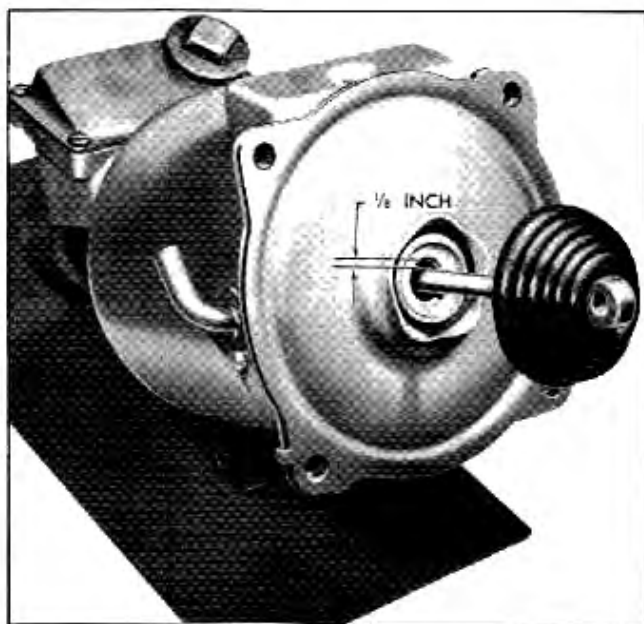

Fig. 5-35 Clearance Between Push Rod and Plunger
6. Pull rubber boot back from vacuum cylinder so that push rod can be observed where it enters vacuum cylinder. There should be approximately  $\frac{3}{8}$ " clearance between push rod and bore of plunger at top or 12 o'clock position with brake pedal released (Fig. 5-35). If improper clearance is noted, loosen brake pedal pivot bracket and shift slightly to obtain clearance. **NOTE:** If clearance cannot be obtained, check for bent push rod or bent mounting plate.